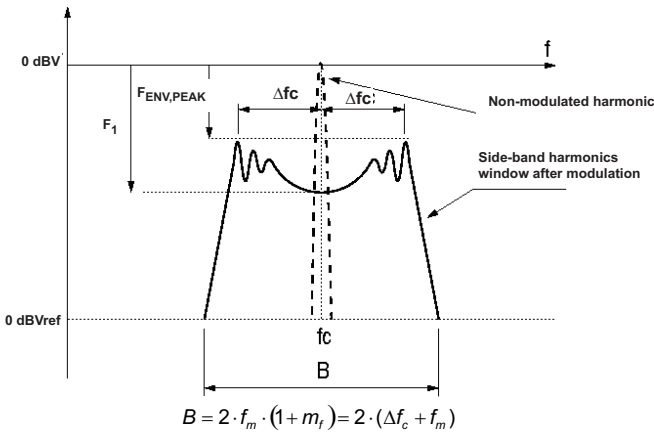
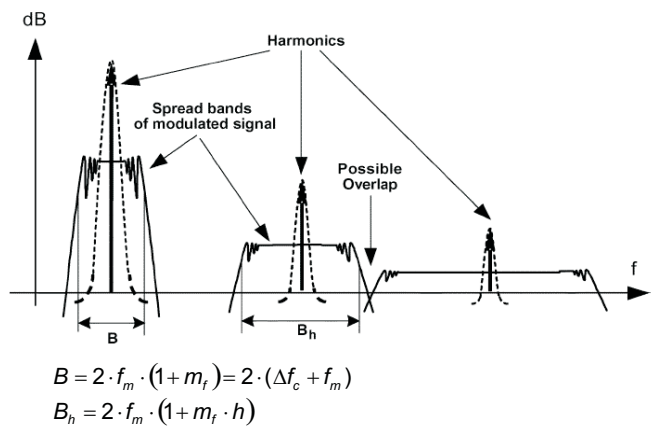

Figure 8. Spectrum Of A Frequency Modulated Sin. Wave With Sinusoidal Variation In Time
Figure 9. Spread Bands Of Harmonics In Modulated Square Signals (1)
Figure 8 and Figure 9 show that after modulation the sideband harmonic is attenuated when compared to the non-modulated harmonic, and when the harmonic energy is spread into a certain frequency band. The higher the modulation index ( $m_f$ ) the larger the attenuation.
(1) Spectrum illustrations and formulae (Figure 8 and Figure 9) copyright IEEE TRANSACTIONS ON ELECTROMAGNETIC COMPATIBILITY, VOL. 47, NO.3, AUGUST 2005. See References Section for full citation.